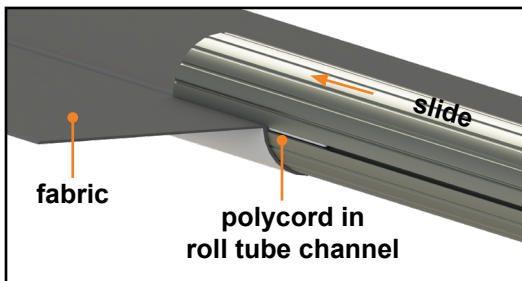

Fig.16
2. Gently slide the roll tube on to the two polycords of the fabric, making sure that the non-printed side is touching the roll tube (Fig. 16).